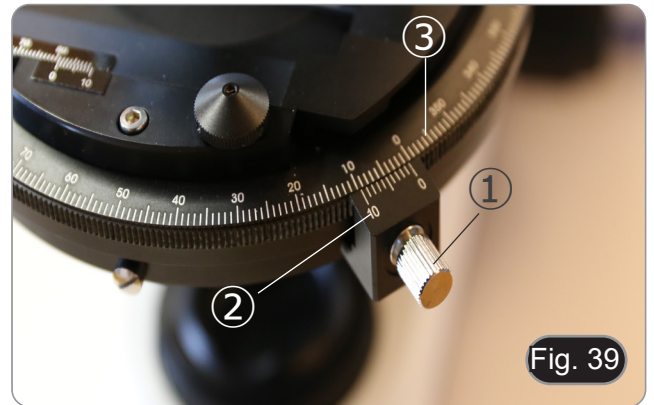

Fig. 39
1. Loosen the stage rotation locking screw ① and rotate the stage until the graduated scale of the stage ② and the vernier scale are aligned ③ in the "0" position. (Fig. 39)
6. Move again the stage on the "0" position and lock the locking screw ①. (Fig. 39)